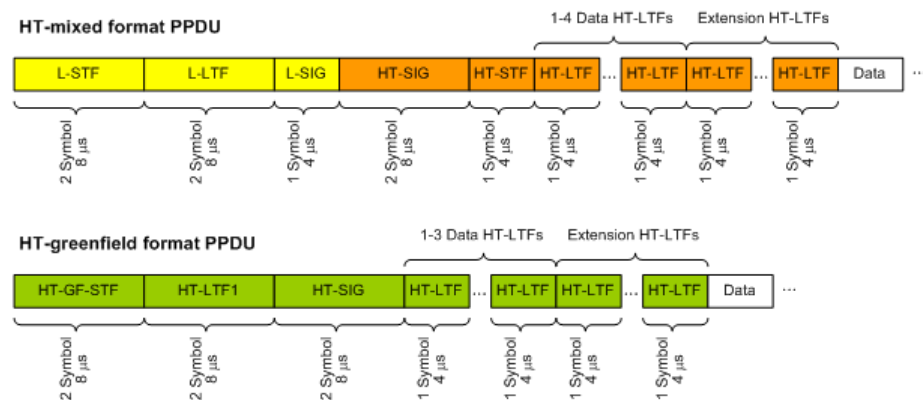

Figure 4-4: Training fields (TF) in the preamble of PPDU in IEEE 802.11n standard
For each space-time stream, at least one training field (the (V)HT-LTF) is included in every PPDU preamble (see Figure 4-4). Each sender antenna transmits these training fields, which are known by the receive antenna. The effective channel can be calculated from the received (and known) (V)HT-LTF symbols of the preamble, without knowledge of the spatial mapping matrix or the physical channel. Thus, the effective channel can always be calculated.